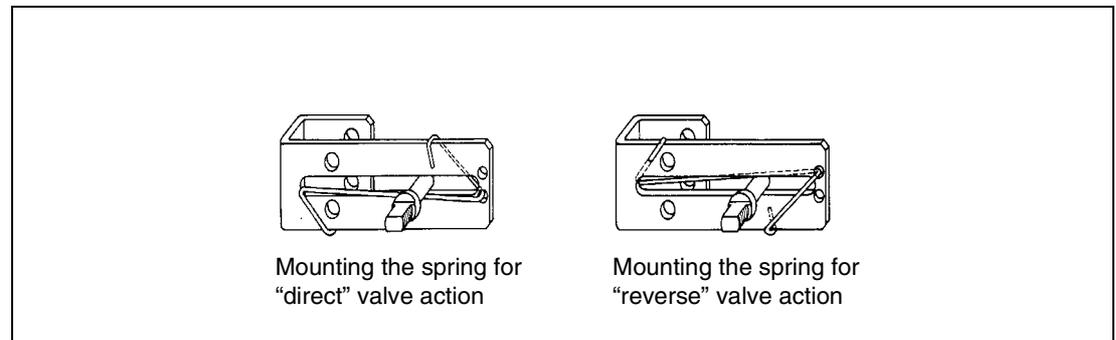

Fig. 3:
Fasten the follower guide (200) with the 2 screws (203) to the actuator spindle. Actuators ready for attachment in accordance with DIN/IEC 534 have two appropriately threaded holes (size M6) in the spindle. Attach the positioner spring (201) to the follower guide (see Fig. 3). Observe the valve action (see Section 3.6.1 of this manual).